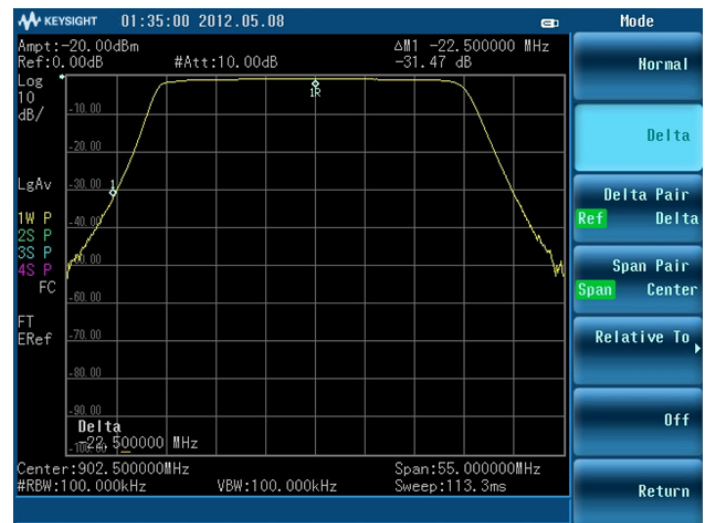

Figure 7. Marker delta readout shows the rejection greater than 30 dBc at 880 MHz
- Press [Marker] > {Mode Normal} > {Delta} and set the marker delta to [-22.5] MHz or [22.5] MHz. The marker delta read out shows the rejection of the filter is above 30 dBc. See Figure 7 and 8 for example.